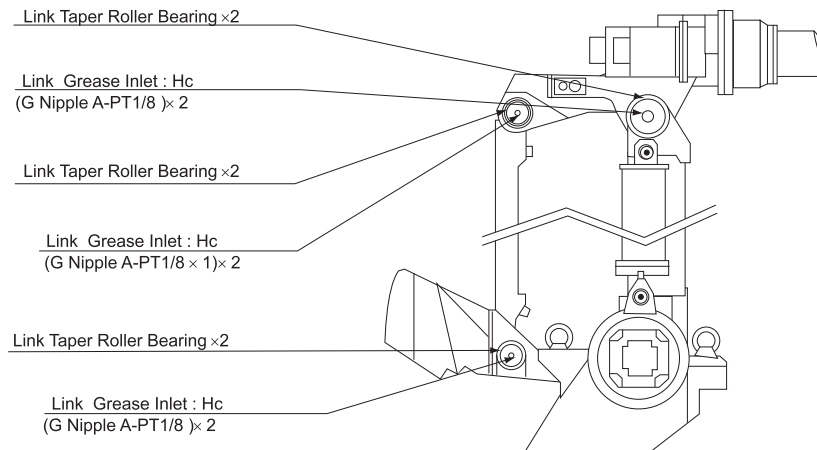

Fig. 30 Link Connection Part
- Remove the plug for air flow. (6ps, refer to " Fig. 30 Link Connection Part ")